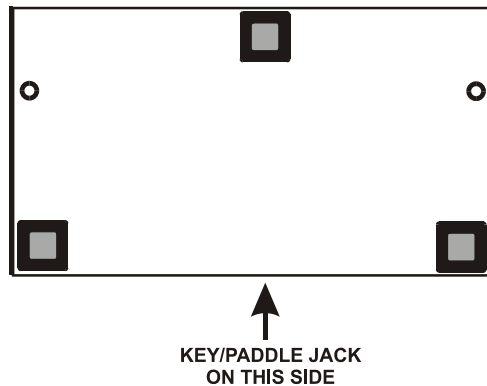

Figure 27. Installing Feet.
- ❑ Three self-adhesive feet are supplied for the bottom cover. Three feet provide excellent stability on uneven surfaces. Position the feet on the bottom as shown in Figure 27.